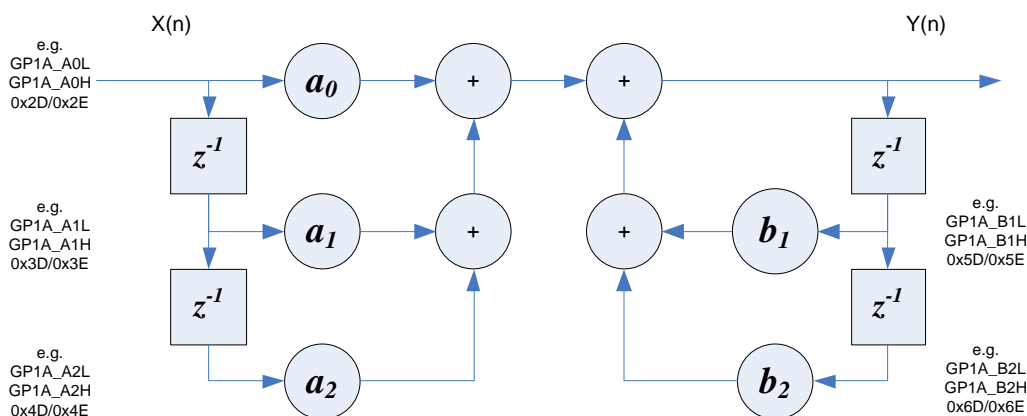

**Figure 16: Digital signal processing engine (simplified block diagram)**
A digital high pass filter for each DAC channel is implemented (configurable by control DAC\_HPF\_F0 (address 0x14, Table 61) that can be enabled via control DAC\_HPF\_EN (address 0x14, Table 61, see blocks 'DAC HP' in Figure 16). After Reset, the high pass filters for both channels are enabled by default.
The digital signal processing engine includes a configurable audio processor that offers flexible routing and extensive audio enhancement and effects. Linear phase FIR filters perform the interpolation and decimation for the required sigma-delta sample rates. Configurable high-pass filtering (optionally enabled) removes any signal DC offset (see blocks 'ADC HP' and 'DAC HP' in Figure 16) and offers 5-band equalisation during recording and sound playback.
Alternatively it can provide dedicated voice band filtering at samples rates  $\leq 16$  kHz (see blocks 'ADC IIR' and 'DAC IIR' in Figure 16).
An additional general purpose (GP) filter engine offers up to eight second-order biquad filter stages with configurable 16-bit coefficients, and supports flexible digital audio routing and mixing arrangements. Figure 16 shows some possible routings (a subset of the available settings) for filter blocks GP1A to GP2D with the related control registers. Typical use cases with example configurations are explained in the section 8.3.
To allow user-specific sound control, the recording path includes a programmable 5-band equaliser (combined in the ADC IIR blocks in Figure 16). This is enabled using control ADC\_EQ\_EN (address 0x13, Table 60).